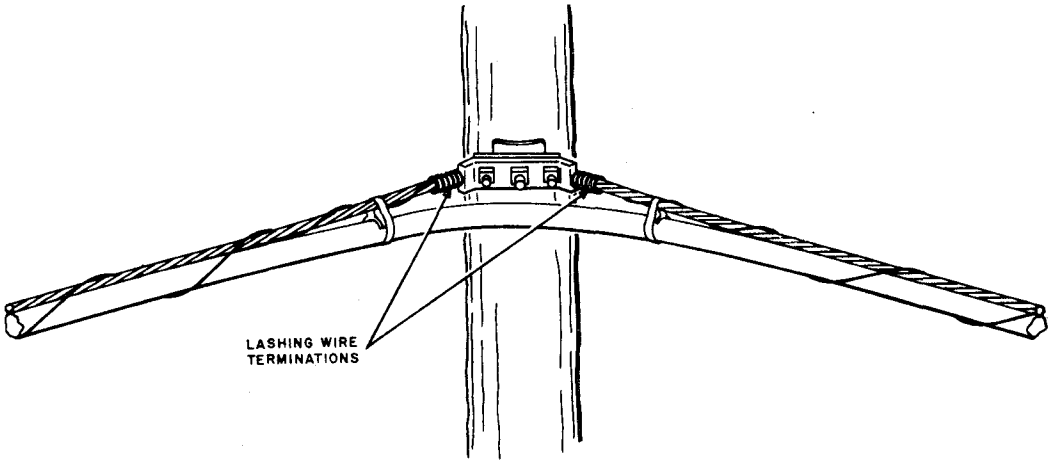

Fig. 9—Lashing Wire Terminations at Poles Where Strand is Continuous
5.09 Figures 9 through 12 show the position of the lashing wire and the location of the ties under various conditions frequently encountered in the field.